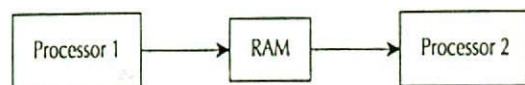

FIGURE 5.6 Two 68000s interfaced via shared RAM.
Let us explain the application of the TAS instruction. TAS(EA) is usually used to synchronize two processors in multiprocessor data transfers. For example, consider two 68000-based microcomputers with shared RAM shown in Figure 5.6.